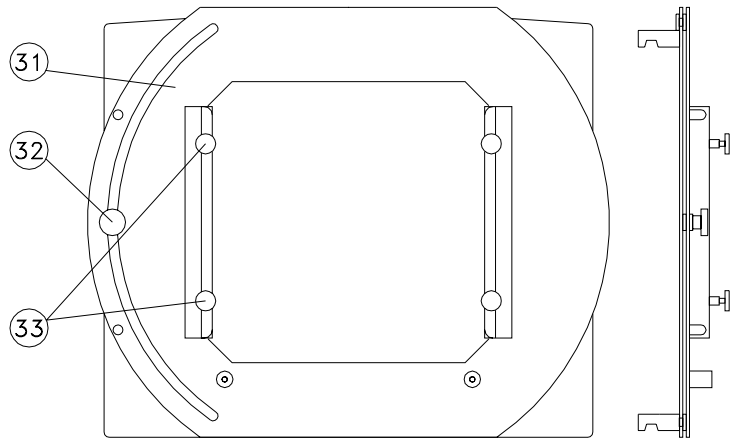

Figure 7
7.2) Installing an objective in objective adapter (fig.7)
The objective is fitted into the objective adapter (fig.7) and fixed in place with four screws (fig.7/ 30).